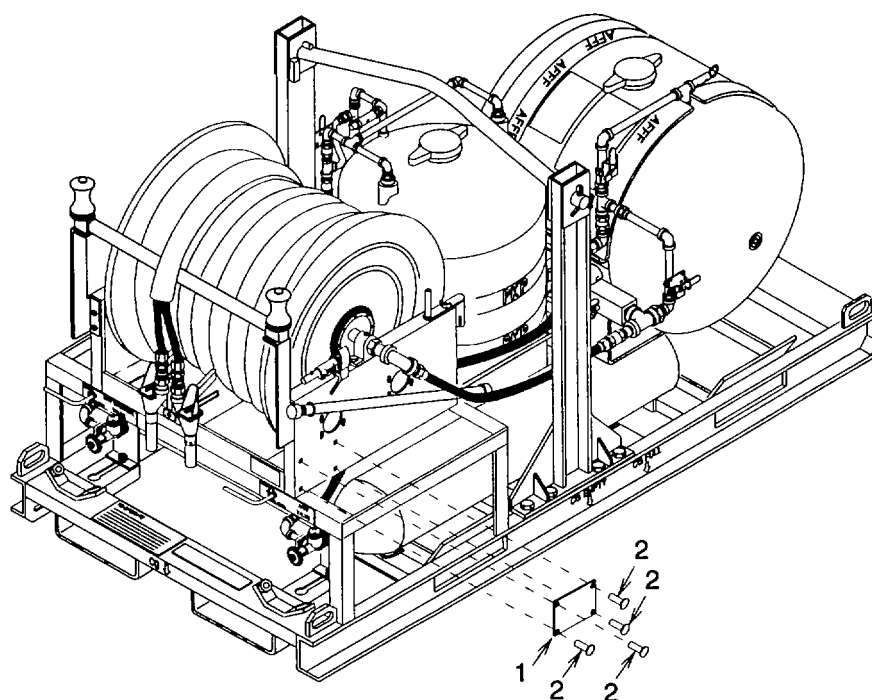

Figure 4-6. ID Plate
(1) ID nameplate.
- (a) Remove four drive screws (1) using a drill bit slightly smaller than the drive screw body. See figure 4-6.
- (b) Remove the ID plate (2) and any remaining drive screw (1) material.
(2) Pressure sensitive backed name plates.